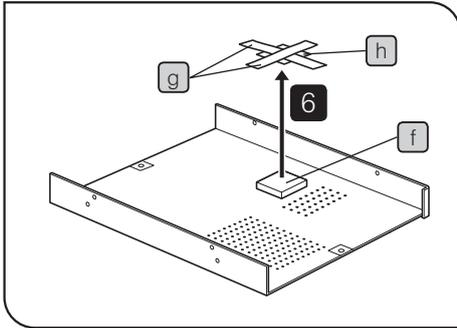

Fig. 5
- 6 A thermal conduction sheet (f) is attached on the back of the top cover. Remove the tapes (g) and the protective sheet (h) carefully without displacing the thermal conductive sheet (Fig. 5).